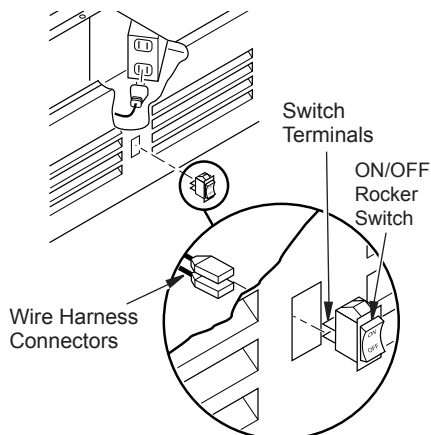

Figure 20 - Connecting Rocker Switch
3. Connect wire connectors to rear of switch terminals on rocker switch located in lower louver panel (see Figure 20).